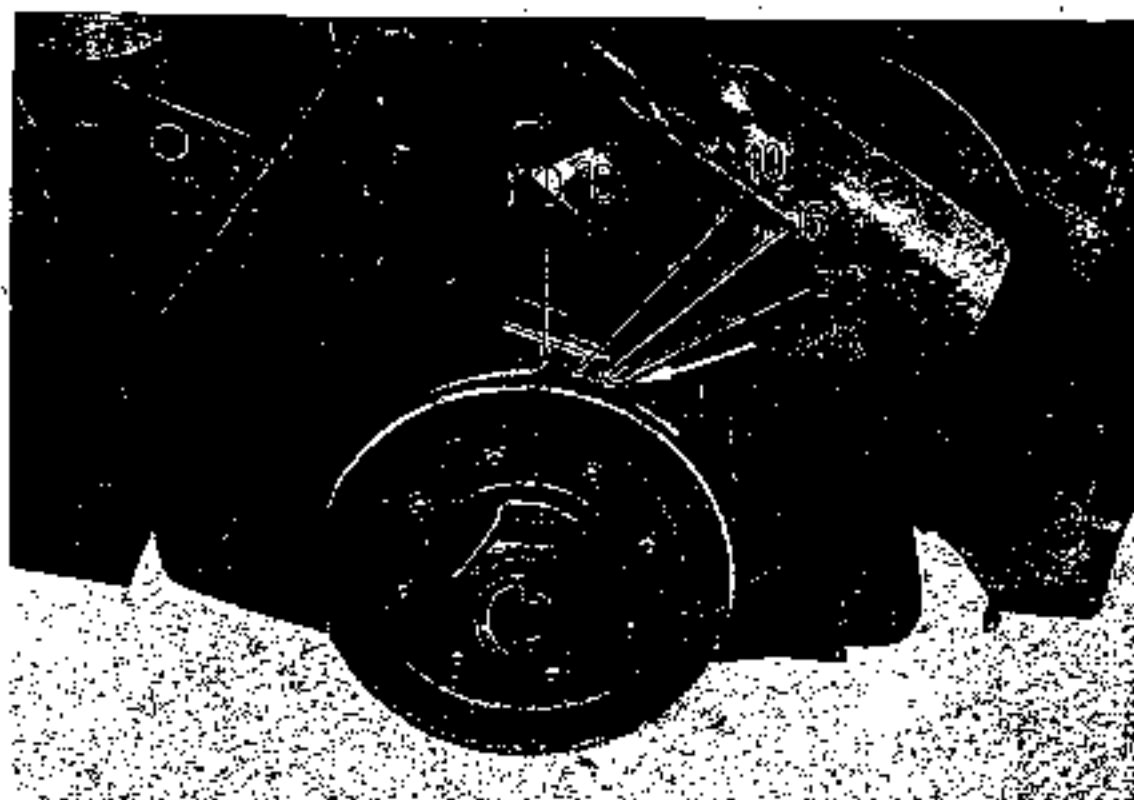

Fig. 1 Checking the Ignition Timing
The ignition timing is adjusted to 10 degrees before top dead center with the engine stopped as shown in Fig. 1. With this adjustment, the automatic timing advancer of the distributor advances the ignition timing even farther at the time the engine starts to rotate, and the timing is maintained constantly at values suitable for the rotational speed.
2. Turn the crankshaft gradually until the top dead center mark (Fig. 1) on the pulley periphery coincides with the mark for 10 deg. before top dead center on the timing gear cover as the crankshaft approaches its position somewhat before that corresponding to the end of the compression stroke of the No. 1 piston. Stop the crankshaft in this position. The compression stroke of the No. 1 piston can be determined if the spark plug of the No. 1 cylinder is removed, the hole plugged with a finger, and the crankshaft turned. With the crankshaft in the previously-mentioned position, the No. 1 piston is in its position of 10 deg. before top dead center of compression.